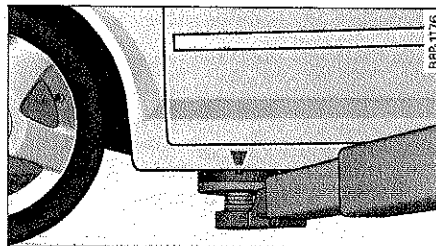
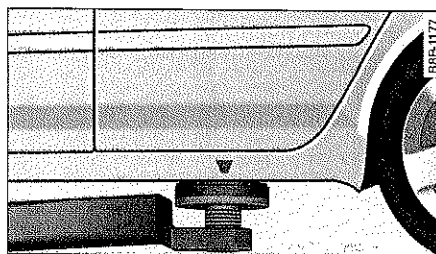

Fig. 225 Front lifting point
Fig. 226 Rear lifting point
- Always lift the vehicle only at the special workshop hoist and floor jack lift points illustrated ⇒ fig. 225 and ⇒ fig. 226.
- Locate lifting points ⇒ fig. 225 ⇒ fig. 226.